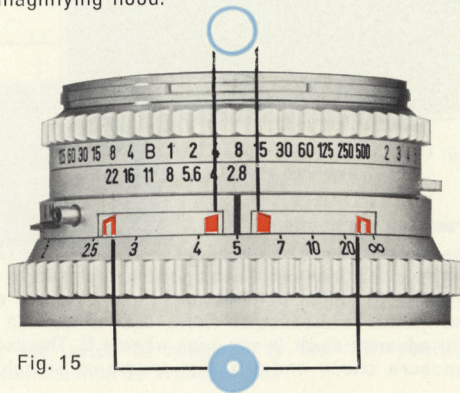

Fig. 15
It will be seen from a study of the movement of the depth of field indicators (6), page 16, that the extent of the field depends on two factors: distance from camera to subject and aperture. Rule: The depth of field increases with the distance and the extent to which the lens, or aperture, is stopped down. See page 16 and fig. 15 on page 17. The field of focus is always about $2/5$ of the field in front of the object and $3/5$ beyond.
Thanks to the movable depth of field indicators it is appreciably easier to focus the camera. Moreover, since it is possible to read off the depth of field corresponding to the exposure combination right on the distance scale, the roundabout method of focusing on the distance scale is eliminated. The movable depth of field indicators show the exact field of focus and, at the same time, the distance of camera to subject can be read on the index (5). The depth of field indicators consist of two parallel movable pointers. The position of these pointers in relation to the distance scale is adjusted as soon as the aperture setting is changed, and, of course, every change of shutter speed results in a corresponding change in aperture setting, since these two functions are automatically connected. Changes in the EVS setting due to changed lighting conditions also affect the aperture. Finally, the iris diaphragm can be disconnected from the exposure value setting. In this case the value is shown by the depth of field indicators. However, when the distance setting is changed, the pointers remain in the same position. Fig. 15 shows how the largest aperture opening (f/2.8) results in the smallest depth of field. This is equal to the distance shown between the two pointers. The smallest aperture (f/22) gives the maximum depth of field. The action of the aperture on the depth of field can easily be checked, since the aperture which controls the depth of field is opposite the index.